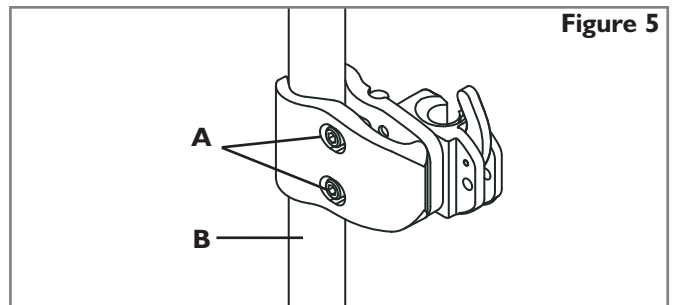

Figure 5
3. Attach the hardware receivers. (Fig. 5)
- a. Loosen the clamp screws (A) with the enclosed 4mm hex key. NOTE— For large tube diameters, clamp screws may have to be removed completely.
- b. Attach and align receiver to the wheelchair back canes (B).
- c. Hand tighten clamp screws (A). NOTE— Receivers may require additional lateral adjustment to ensure proper alignment.